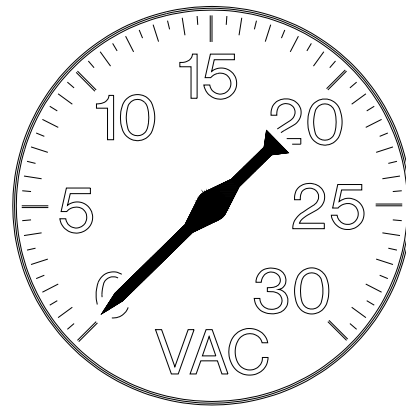

Figure 7
5. With the nozzle closed, a normal vacuum reading is 0. See Figure 7.